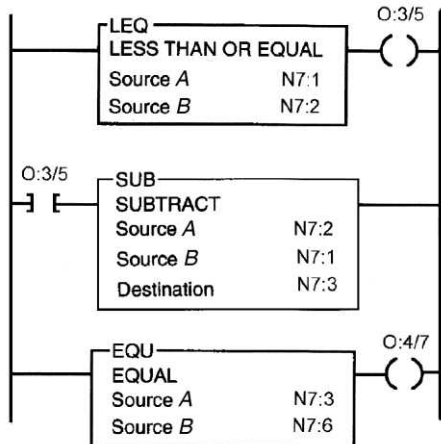

Figure 11-22 Program for question 14.
14. For the program of Figure 11-22, assume the value of the numbers stored in words N7:1, N7:2, and N7:6 are 600, 750, and 100, respectively. As a result, output O:3/5 state will be (a) _____, the number stored in word N7:3 will be (b) _____, and output O:4/7 state will be (c) _____.